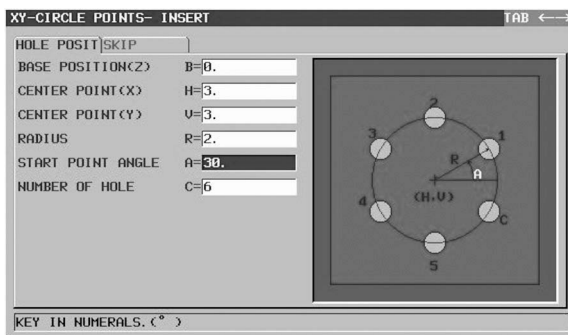

Figure 7-73 TAP DRILLING,
Complete the entries in the XY-CIRCLE POINTS dialog HOLE POSIT tab per Figure 7-73 and press the INSERT soft key.
- Complete the entries in the XY-CIRCLE POINTS dialog HOLE POSIT with the same values as for the Tap Drilling in Figure 7-73; then press the INSERT soft key.
- With the cursor at the EOB character of the last line entered, use the Continuous Menu button to find the END soft key and select it. Use the arrow key to select item 2. TOOL END from the list and press the INSERT soft key.